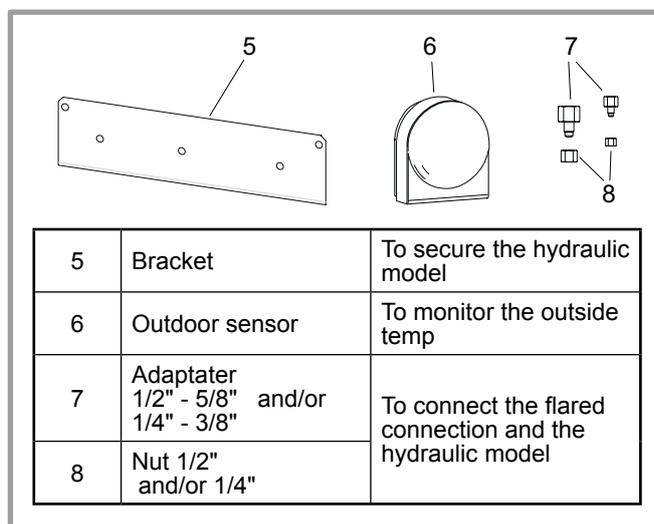

figure 11 - Accessories provided with the hydraulic unit
☞ **The outdoor unit must only be installed outdoor (outdoors). If a shelter is required, it must have broad openings on the 4 walls and observe the installation clearances (figure 11).**
- The unit must be easily accessible for future installation and maintenance work (figure 11).
- Nothing should obstruct the air circulation through the evaporator and from the fan (**figure 11**).